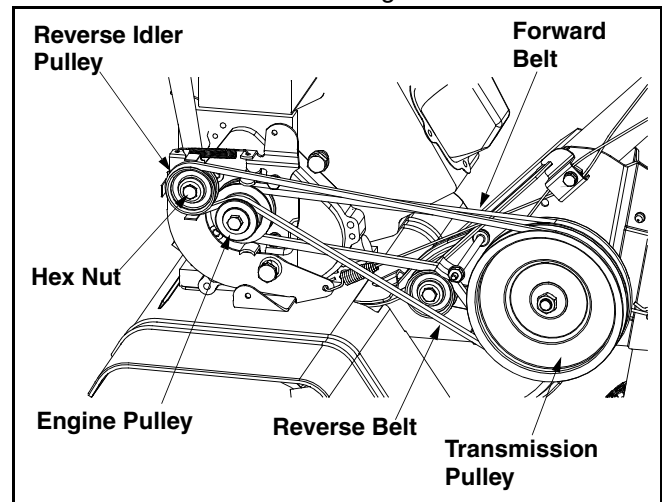

Figure 15
- Remove the hex nut which secures the reverse idler pulley to the idler bracket. Slide idler pulley out and remove the belt. See Figure 15.
- Lift belt off the idler pulley and transmission pulley. See Figure 15.